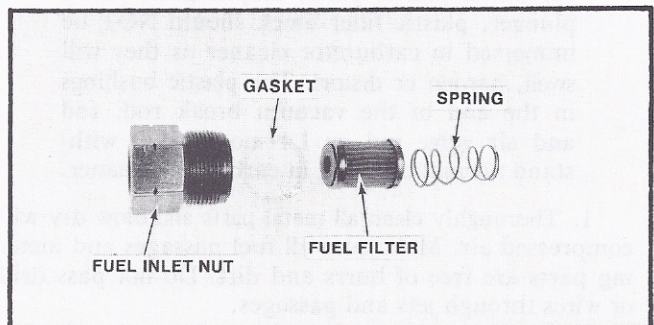

FIGURE 36
4. Install fuel inlet filter spring, check valve-filter assembly, new gasket and inlet nut (Figure 36) and tighten nut to 24 N m (18 ft. lbs.).